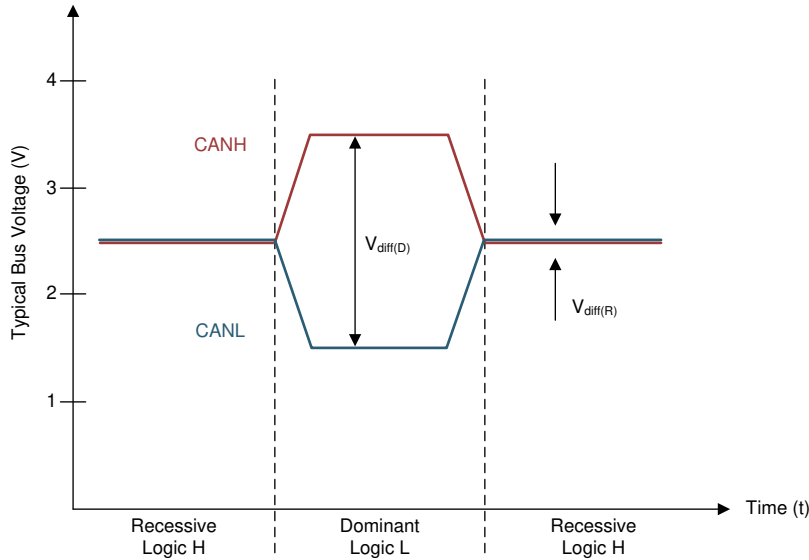
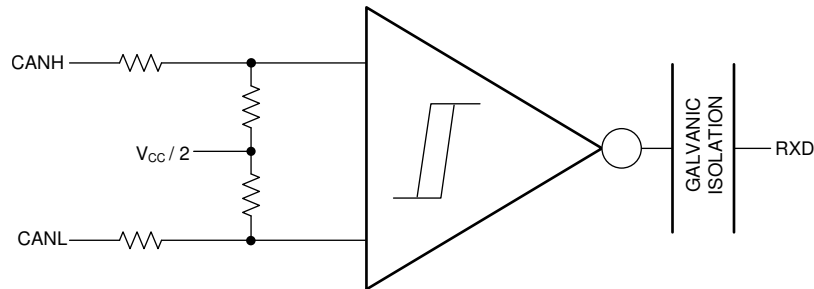

図 8-1. Bus States (Physical Bit Representation)
図 8-2. Simplified Recessive Common Mode Bias and Receiver
The CAN bus has two states during operation: *dominant* and *recessive*. A dominant bus state, equivalent to logic low, is when the bus is driven differentially by a driver. A recessive bus state is when the bus is biased to a common mode of $V_{CC} / 2$ through the high-resistance internal input resistors of the receiver, equivalent to a logic high. The host microprocessor of the CAN node uses the TXD pin to drive the bus and receives data from the bus on the RXD pin. See Figure 8-1 and Figure 8-2.
(1) H = high level, L = low level, Z = common mode (recessive) bias to $V_{CC} / 2$. See 图 8-1 and 图 8-2 for bus state and common mode bias information.